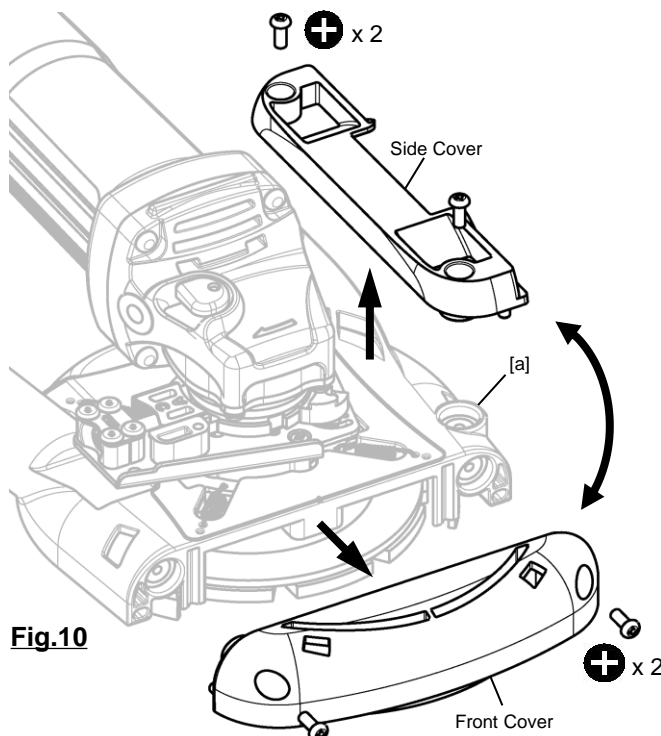

Fig.10
1. Detach the Front Cover and Side Cover from [a] Main Unit. (Fig.10)